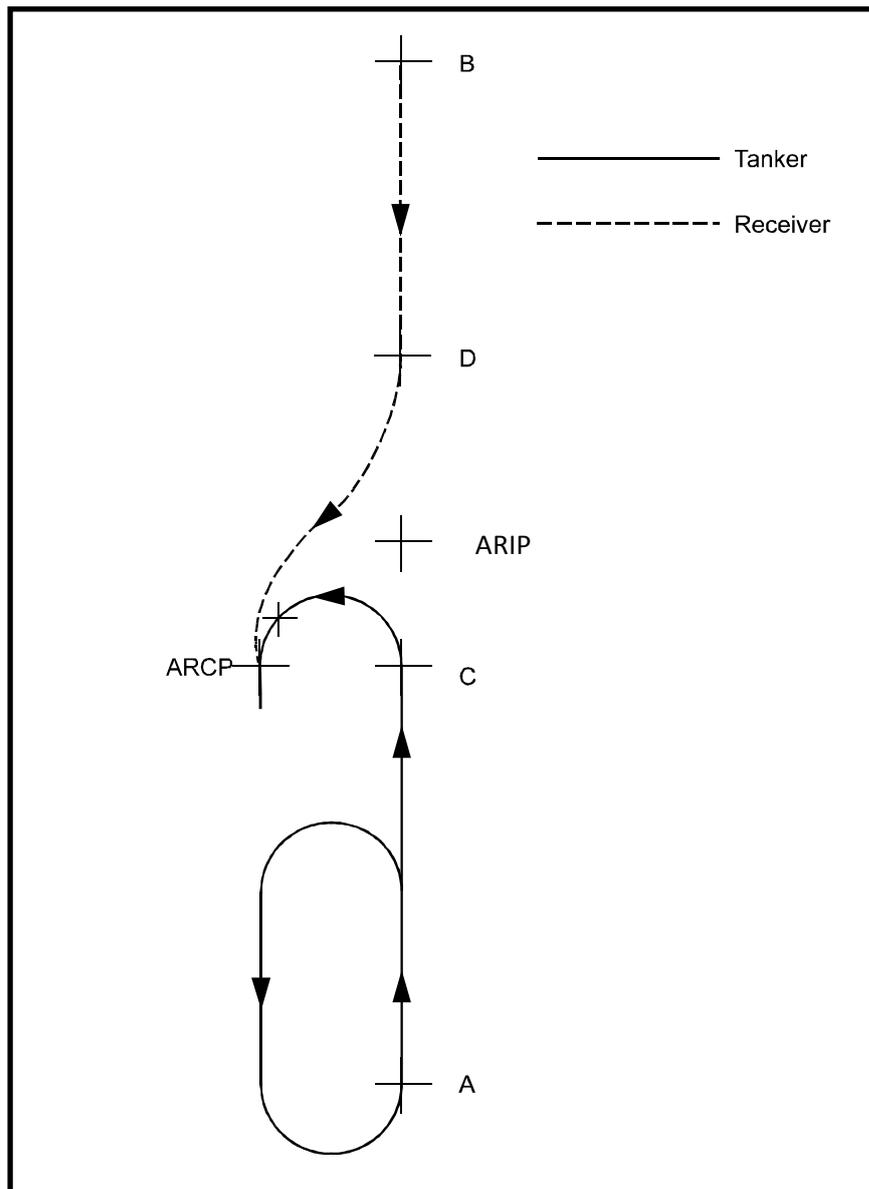

Figure 2C-1. Diagram of RV Charlie
- a. **Track Requirements.** A reciprocal head-on approach with no lateral displacement is set up. To give sufficient time to correct any heading error, a minimum initial head-on separation of 100 nm is desirable; see Figure 2C-1.
- (1) The tanker flies at the indicated refuel speed for the receiver. This speed is available in the appropriate National SRD, through the SPINS or arranged between the tanker and receiver on the ground or in the air prior to AAR.
- (2) The tanker translates the indicated refuel speed into TAS for the RV altitude (Chapter 2 Annex 2D, Tables 2D-1 and 2D-2), applies it to the appropriate AOB table (Table 2C-1) and calculates the turn range dependent on drift.
- (3) The receiver should normally fly the procedure at the tanker's speed (KIAS) plus 20 kts.
- d. **Transmission for Direction Finding (DF)**